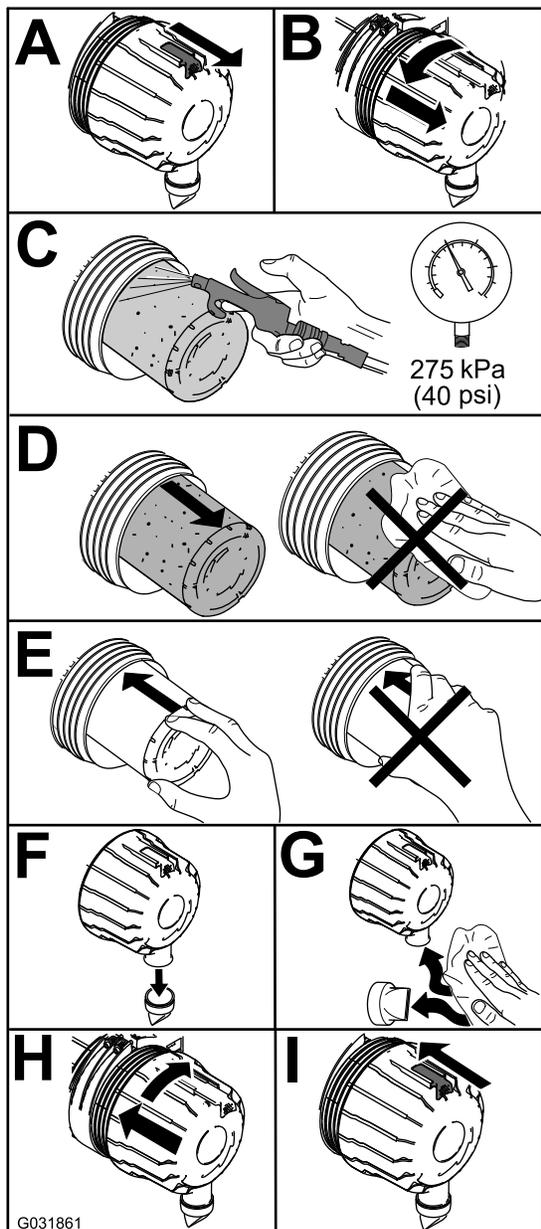

Figure 70
1. Replace the air cleaner (Figure 70).